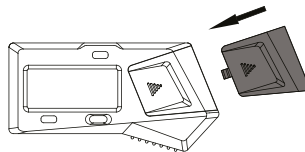

fig 3.
- Close the battery cover (fig 3.).